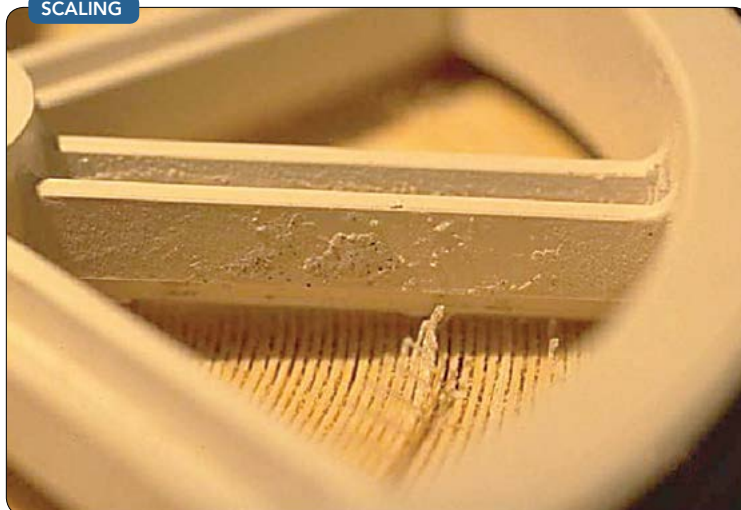

Figure 3. This appears in the second stage when salts exceed their solubility limits.
- Scaling (Figure 3) appears in the second stage. (Recovery of product water in this stage boosts the concentration of salts in the remaining water, possibly exceeding the solubility limit of certain salts.)